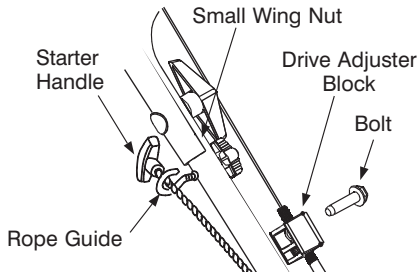

Figure 5
- Secure drive adjuster block with bolt previously removed. See Figure 5.
- With the spark plug wire disconnected and grounded as instructed in the separate engine manual, hold the blade control handle against the upper handle, and pull the starter rope out of the engine. Hold the rope guide as shown so the opening in the rope guide is toward the front of mower. Slip the rope guide around the starter rope and into the right side of lower handle using the hole shown. Secure using the small wing nut. See Figure 5.